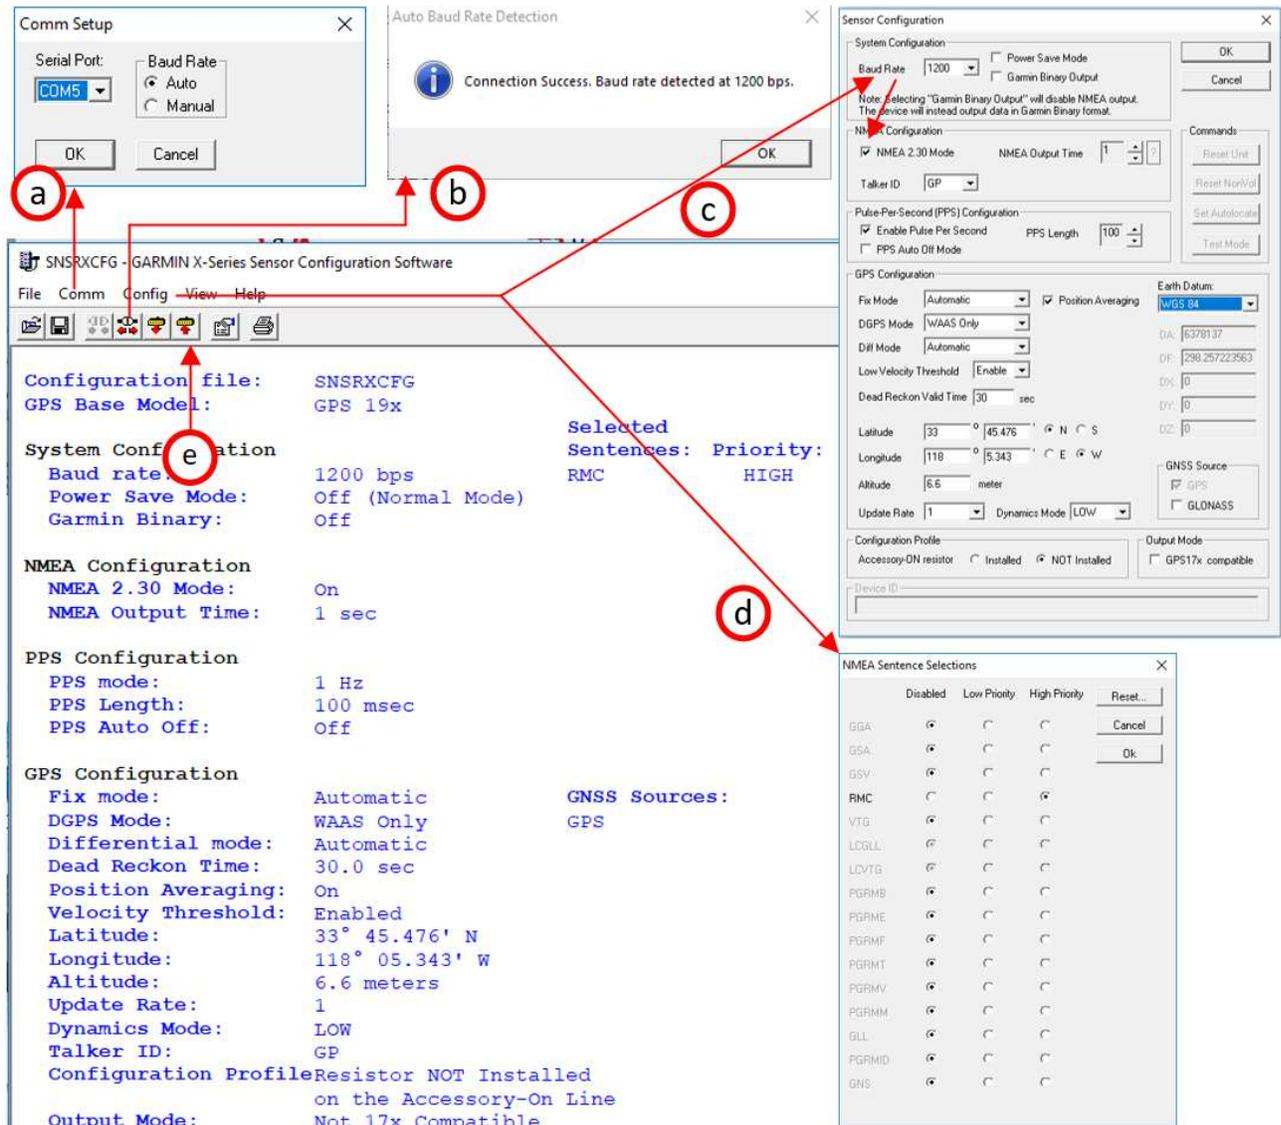

Figure 19: SNSRXCFG Usage Summary
5. The programming sequence for RMC @ 1200 Baud can be summarized as in Figure 19: